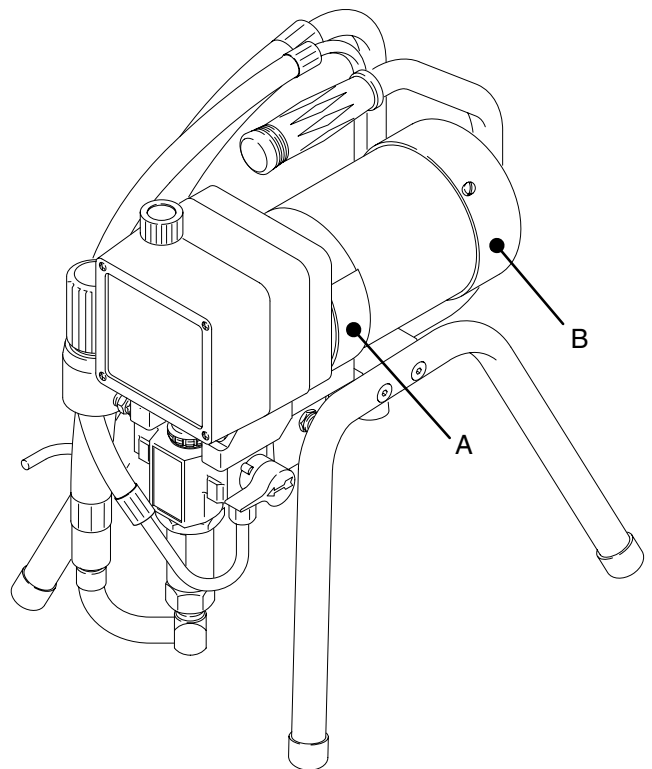

Fig. 11 Model 231-298 Shown
Remove the motor brush inspection covers (A). See Fig. 11.
Remove the fan cover (B). See Fig. 11.